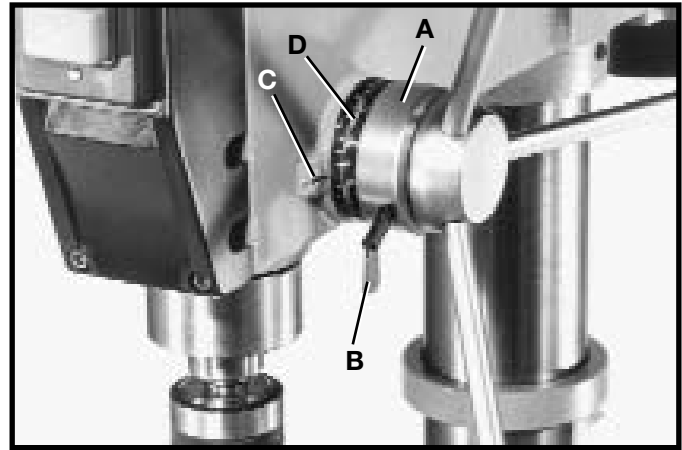

Fig. 27
Where a number of holes are to be drilled to exactly the same depth, a depth stop is provided in the pinion shaft housing (A) Fig. 27, and is used as follows:
1. Loosen lock lever (B) Fig. 27, and rotate housing (A) until the pointer (C) lines up with the depth indicated on the English/Metric scale (D) that you want the spindle to lower. Then tighten lock lever (B).
2. The spindle will then lower to the exact depth as indicated on the scale (D) Fig. 27